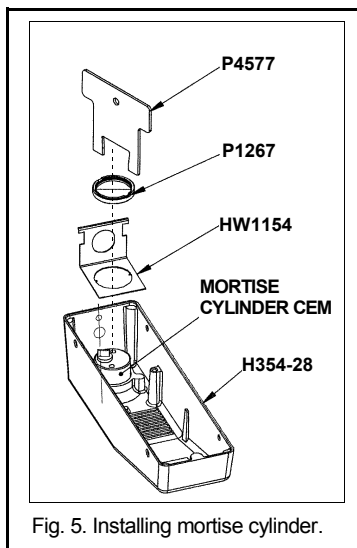

Fig. 5. Installing mortise cylinder.
1. Referring to the Figure 5 at right,
3. Install the Magnetic Actuator (Part #P0290) so that it is centered between the two marks on the Housing Cover sticker, the template, or created during Magnet Alignment Mode. Mark holes, use a 1/8" (0.125") bit, and drill the hole 1" deep. Use the two supplied #8 sheet-metal screws (1"). **Note:** On steel frames, it is sometimes necessary to install a non-magnetic shim or spacer between the magnetic actuator and the frame. This is to prevent the steel frame from absorbing the magnet's magnetic field, which could cause a constant or occasional false alarm condition, and to correct for height differences between the door and the doorjamb. Use the enclosed spacers or construct a shim 1/2" x 2 1/2" x 1/8" from thick non-magnetic material such as plastic, bakelite or rubber. **Note:** The reed selection jumper W1 should be set to the side of the unit that will have the magnet installed (see Figure 5). After the Magnetic Actuator has been aligned and mounted, the Tamper Screw may be installed. This will place the unit in its normal "Standby Mode", ready for use.